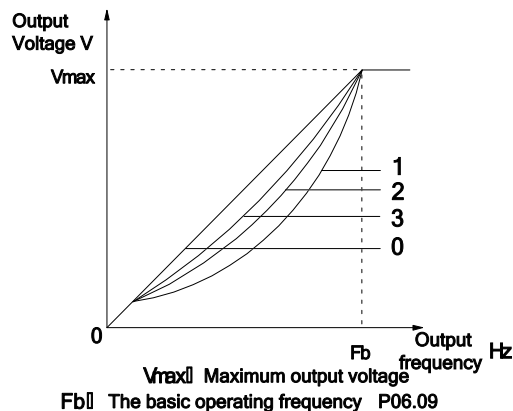

Figure 6-18: De-torque curve
- When P06.00 Option 1, is 2.0 times the power down torque characteristics; such as in Figure6-18 curve.
- When P06.00 select 2, 1.7 power down torque characteristics; such as in Figure6-18 curve 2.
- When P06.00 Option 3, is 1.2 times the power down torque characteristics; such as in Figure6-18 curve 3.
The factory default user-defined V / F is a straight line, curve, see Figure6-18 curve 0.
The basic operation is the minimum frequency when the servo drive output highest frequency voltage corresponding to the motor is generally rated frequency. As in Figure 6-18 fb: